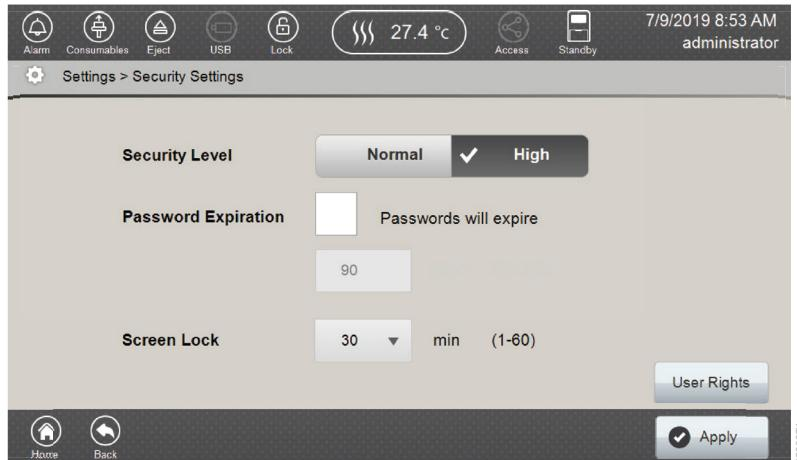
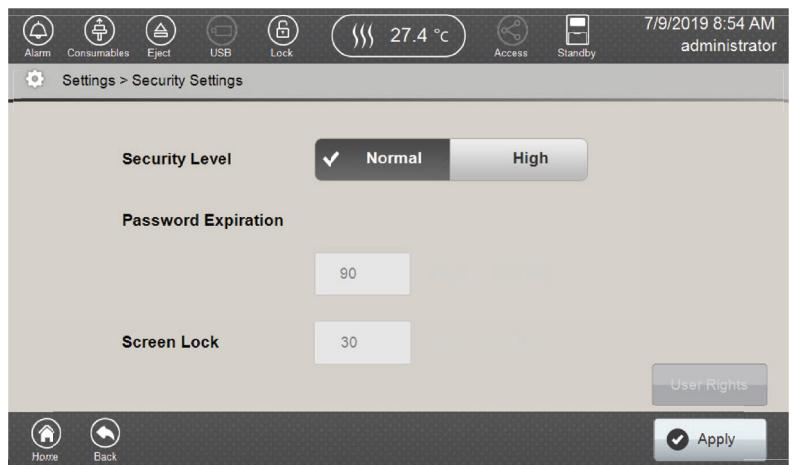
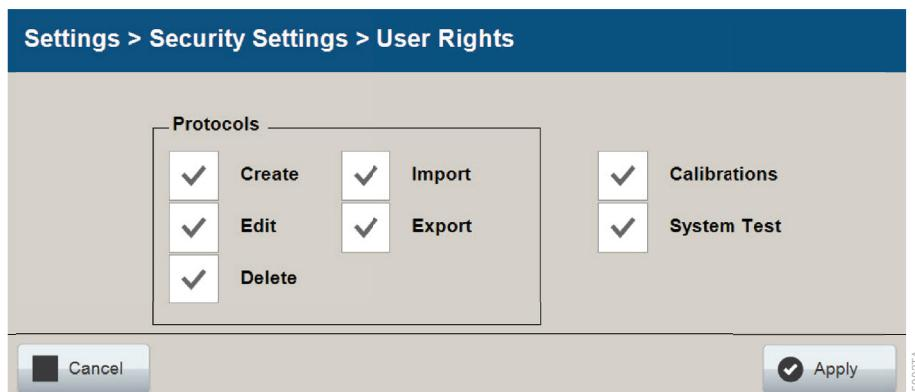

Figure 162. High-level 'Security Settings' screen.
Figure 163. Normal-level 'Security Settings' screen.
Figure 164. 'User Rights' screen.
1. Select **Security Settings** in the 'Settings' screen (Figure 158) to open the 'Security Settings' screen. The 'Security Settings' screen is different for High (Figure 162) and Normal (Figure 163) security levels.
1. Select **User Rights** in the bottom right corner of the 'Security Settings' screen under the High security level (Figure 162) to open the 'User Rights' screen (Figure 164).